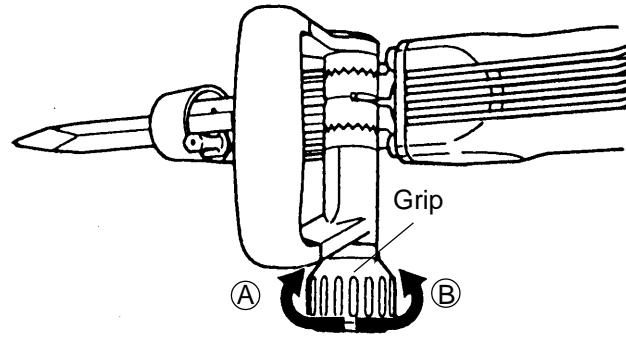

Fig. 8
The side handle can be adjusted by 360° rotation and also allows operation from front to rear. Loosen the handle by turning the grip in (A) direction and adjust the handle to a convenient position. Turn the grip in (B) direction to fix the side handle (Fig. 8).